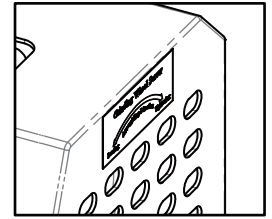

Fig. 6-1
- ① Unplug the power cord and make sure the power is off.
- ② Confirm the screw direction on the grinding wheel cover before changing the grinding wheel. (Fig. 6-1)